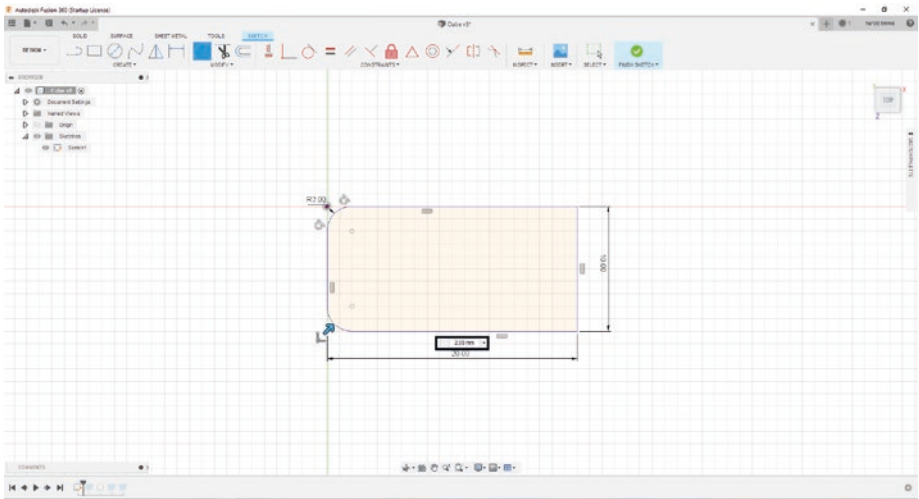

Figure 3-77. 2mm fillets
- 33. In the text box, put 2mm and press enter (don’t mind the warning that you may get when you do this). Press “Enter” when you are finished. See Figure 3-77.